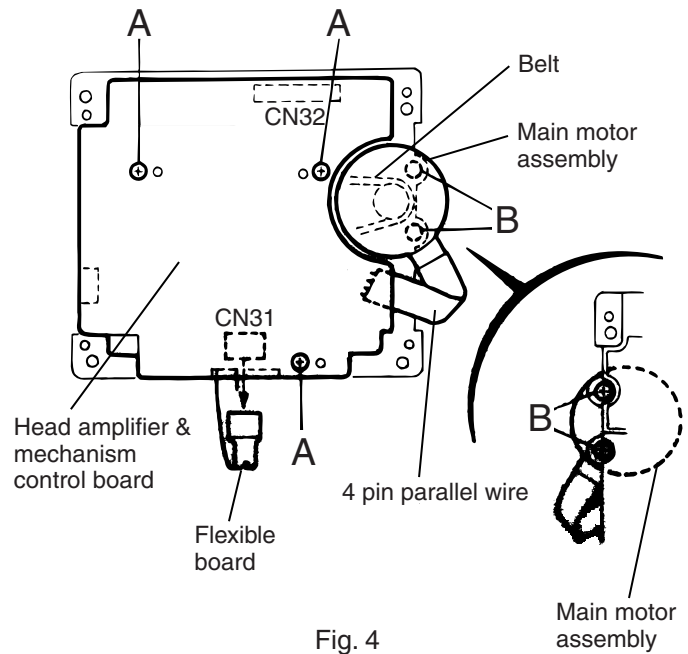

Fig. 4
**■ Removing the head amplifier and mechanism control board (See Fig. 4)**
**■ Removing the main motor assembly (See Fig. 4~7)**
1. Remove the two screws **B** retaining capstan motor assembly. (See Fig. 4)